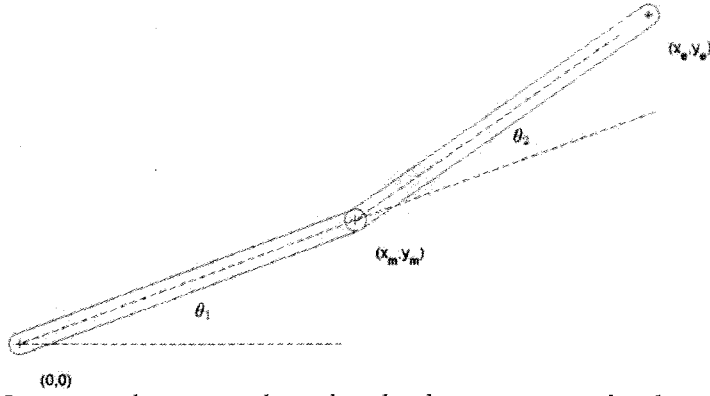

Fig. 1: Link lengths,  $L_1$  and  $L_2$ , are **not** drawn to scale, and angles do not correspond to the solution configuration!
**Problem 1** This problem involves the standard, 2-link, planar robot arm we've discussed several times in class. Figure 1 shows a cartoon of an arm, where  $\theta_1$  is the absolute angle of link 1, with respect to the x axis, and where  $\theta_2$  is the relative angle of link 1, with respect to  $\theta_1$ . (Both angles are measured in the counter-clockwise direction.) Lengths are intentionally NOT drawn to scale!